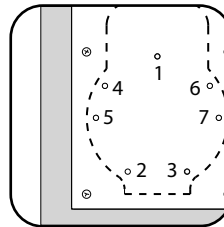

Figure 5
- 2.4 Locate (see Pürleve handle template included OR use the holes in the Pürleve Door Plate installed in Step 1) and mark the center points for the seven Pürleve mounting holes - Holes #4, 5, 6, 7 only required if strength deemed necessary. (Fig. 5)